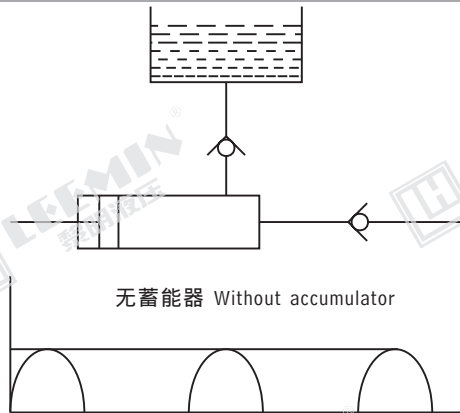

图3
1. 柱塞泵和隔膜泵在运行时会在液压回路里不可避免地产生脉动，这既不利于运动又有害于部件的使用寿命。在靠近泵的出口侧装上囊式蓄能器，可吸收脉动，使脉动降到满意的程度(图3)。典型的用途如：用于定量泵及活塞数较少的柱塞泵等。
Both piston and diaphragm pumps create pulsation or pressure peaks during operation, this being undesirable and detrimental to both the smooth operation and operational life of components. The fitting of an accumulator adjacent to down stream of the pump will dampen the pulsation to an acceptable level(fig.3) Typical Applications are dosing pumps, pump with a small number of pistons etc.